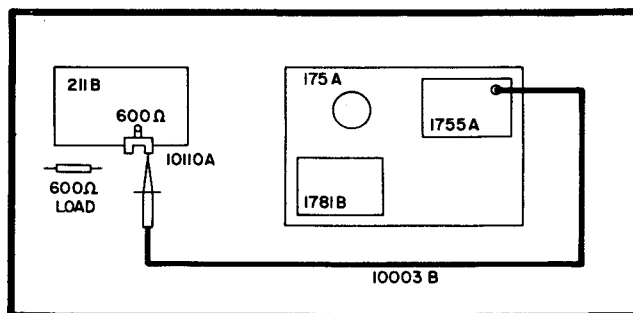

Figure 5-4. 600Ω Output Pulse Check
a. Refer to Figure 5-4 and connect required equipment.